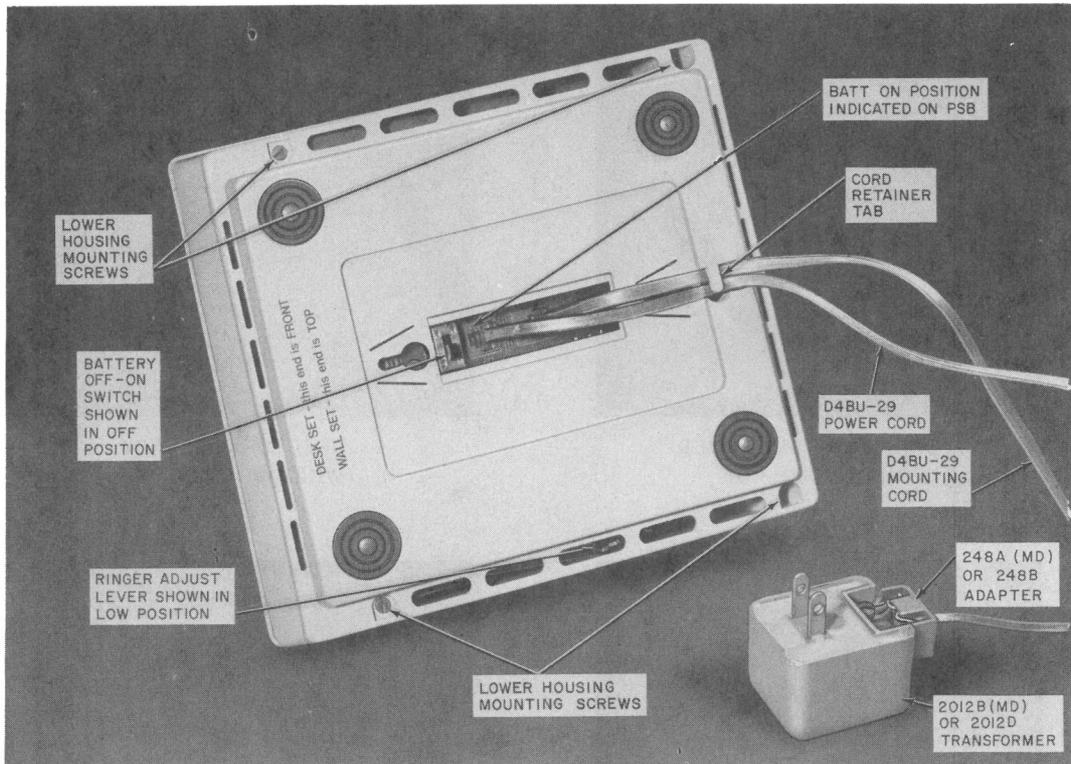

Fig. 2—2960A01M Telephone Set, Bottom View
- Battery OFF-ON switch (located on the bottom of the set, Fig. 2), should be in the OFF position when set is not in service.
- (1) Adapter, 248A (MD) or 248B (to connect D4BU modular mounting cord to 2012B (MD) or 2012D transformer) Fig. 2.
- 3.04** Attach 248A or 248B adapter to 2012B or 2012D transformer (Fig. 2) and plug into 110-117 volt ac outlet not controlled by a switch (continuous ac power is required). Plug one end of the D4BU-29 power cord (maximum 14 feet) into the power jack on the bottom of the set (Fig. 15D) and the other end into the 248A or B adapter.
switch arm (now visible in the bottom view of the set, Fig. 2) to the ON position.
**Note:** The switch ON position is indicated on the bottom of the printed wiring board, (Fig. 2) and if switch is not placed in ON position the set will not record or automatically dial.
**Note:** Dress all cords under retainer tab at bottom rear of housing, Fig. 2.